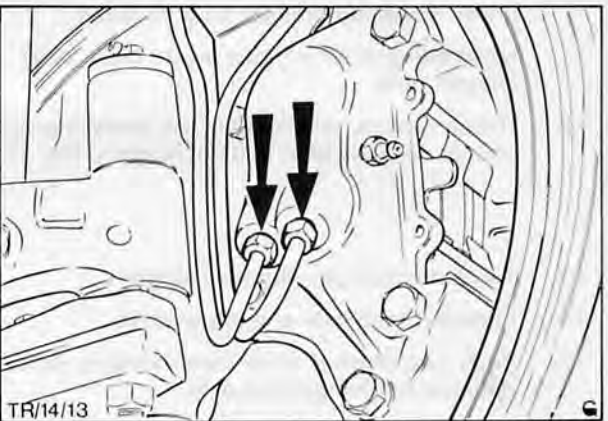

Fig. 13. Front brake hose connection to caliper (horizontally split braking system shown)
10. Reconnect brake hoses both sides, Fig. 13.